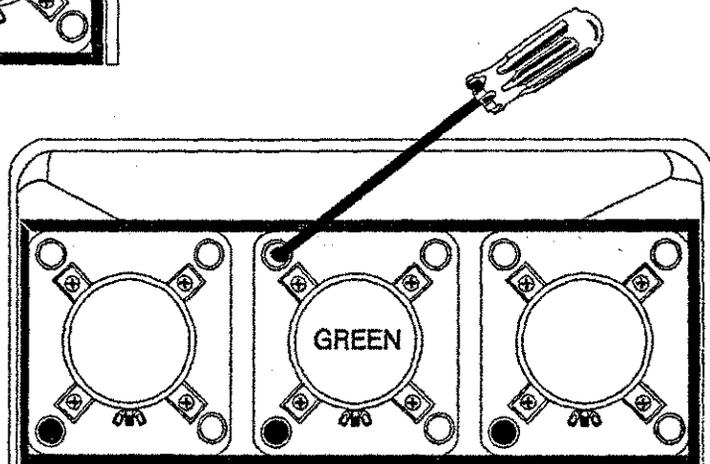

FIGURE 8-7. STEP 5-GREEN ONLY!
- **STEP 5. GREEN ONLY!** Adjust the upper left lens adjustment for side to side focus. See figure 8-7.